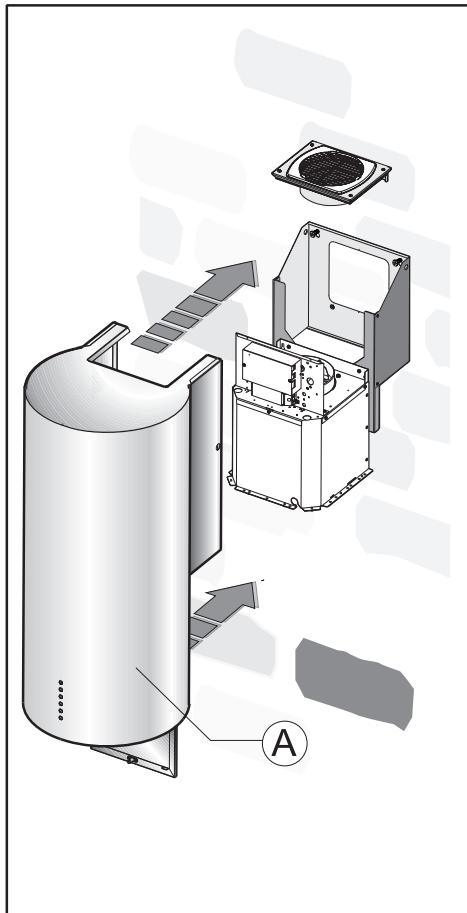

Fig.7
- Position the bodywork A against the wall (**Fig. 7**) and align it with the frame, pushing it upwards (**Fig. 10**).